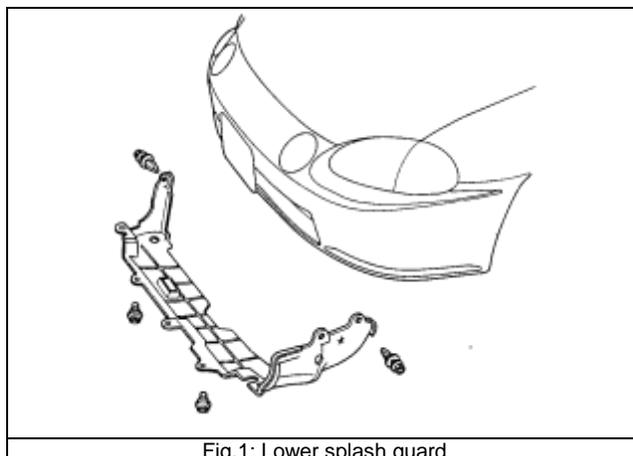

Fig.1: Lower splash guard
- i. Remove the front lower splash shield. (Fig 1)